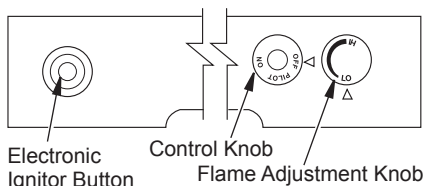

Figure 30 - Control Knob and Ignitor Button Location
3. Press in and turn control knob clockwise  to the OFF position (see Figure 30, page 22).
- Wait five (5) minutes to clear out any gas. Then smell for gas, including near the floor. If you smell gas, STOP! Follow "B" in the safety information, page 21. If you don't smell gas, go to the next step.
- Press in and turn control knob counterclockwise  to the PILOT position. Press in control knob for five (5) seconds (see Figure 30).